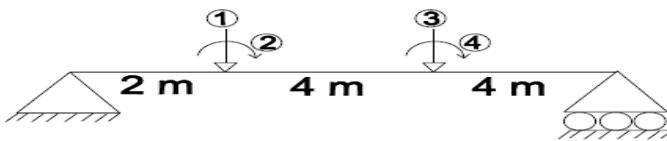

Figure 2
- 2 Develop the stiffness matrix for the given beam [Figure.2] with reference to the coordinates shown. EI is constant.
- 6 A Determine the natural frequencies and mode shapes of the framed structure shown in Figure 2. The floor is considered to be absolutely rigid.